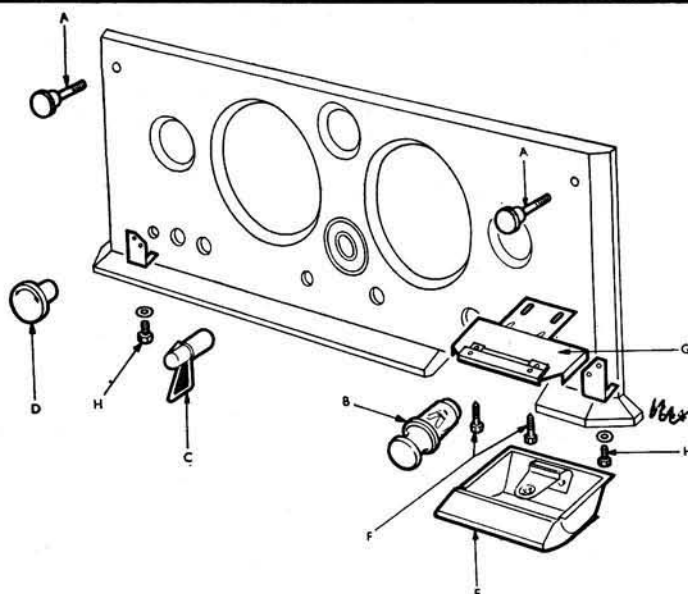

Fig.10.42. Removal of the centre facia panel (Mk.1 models)
4 Refer to Fig.10.42 and take off the facia panel by removing the thumb screws (A) and the cigar lighter (B). Now depress the plunger in the side of the light switch (C) and withdraw the lever